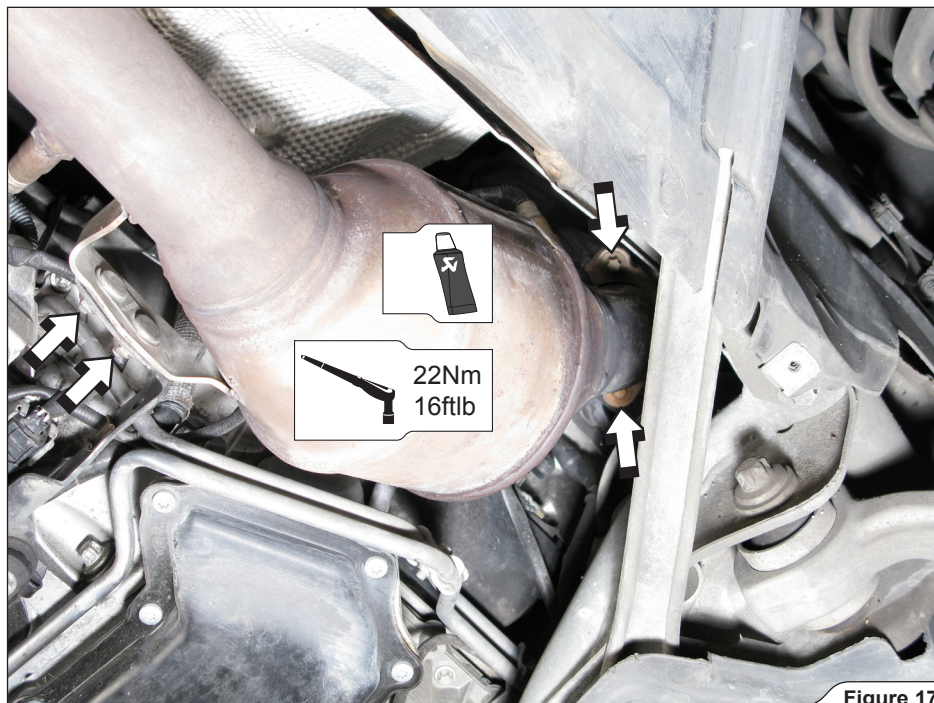

Figure 17
5. **For Evolution only:** set and center the original down pipes and Akrapovič middle pipes (make sure, that all pipes are in center and don't touch any part of the vehicle!), than tighten the flanges, brackets and clamps to a specified torques (**Figure 17, 18**).